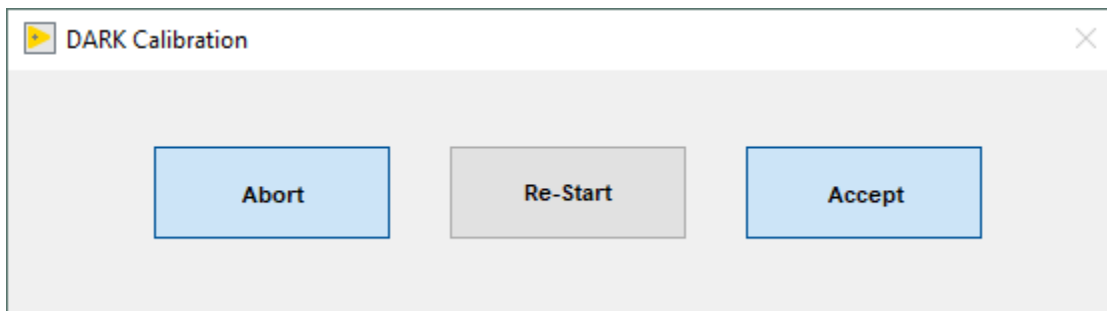

Figure 26. Dark Calibration Completed Prompt
7. When the dark calibration is complete, the user is prompted to **Abort, Re-Start, or Accept** the dark calibration (Figure 26).